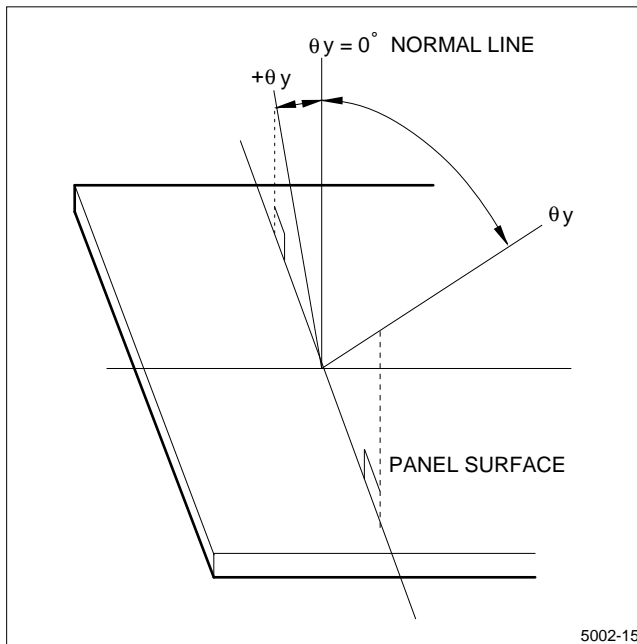

Figure 13. Dot Matrix LCD Viewing Angle
- Industrial (Mechanical) design of the product in which this LCD unit is incorporated must be made so that the viewing angle characteristics of the LCD are optimized. This unit's viewing angle is illustrated in Figure 13 and as follows:
(For the specific values of  $\theta y \text{ MIN}$ ,  $\theta y \text{ MAX}$ , refer to the Optical Characteristics table.) Consider the optimum viewing conditions according to the purpose when installing the unit. (Refer to Figure 13.)